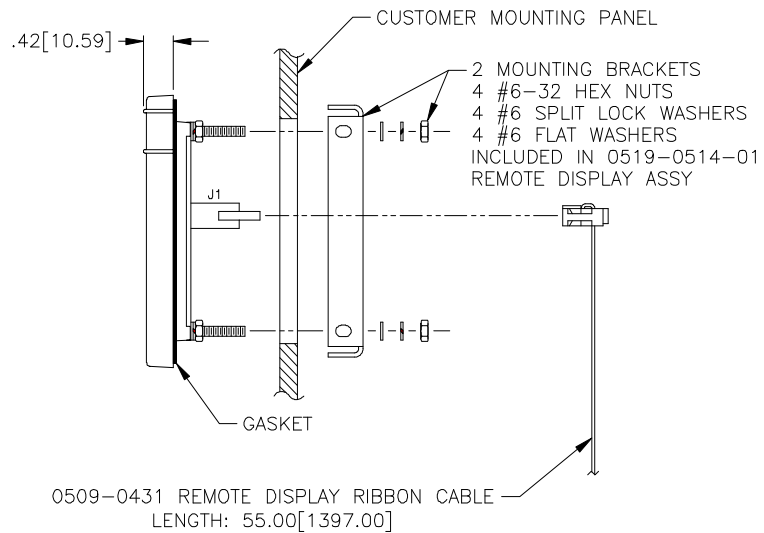

FIG. 3-4 MOUNTING REMOTE DISPLAY TO ENCLOSURE
- Step 4. Gently slide the front panel into the enclosure cutout until the gasket is seated against the front of the enclosure. (See Fig. 3-4)